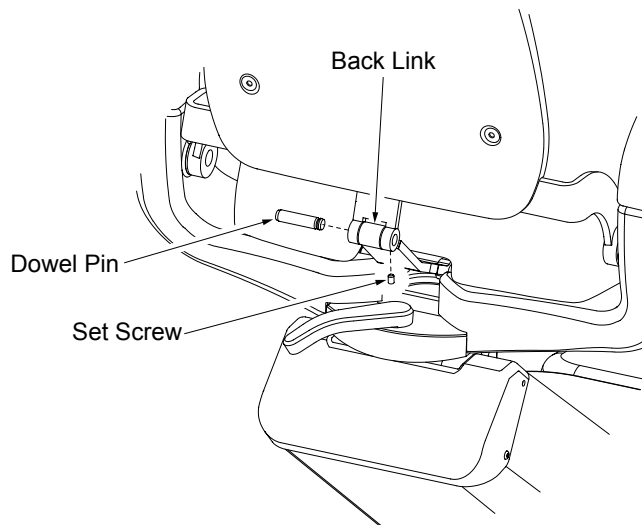

Figure 1
4. Raise the chair back from its shipping position and attach back link onto link pin (figure 1). Using a 3/32" hex wrench, tighten set screw on back link so that chair back is firmly retained.